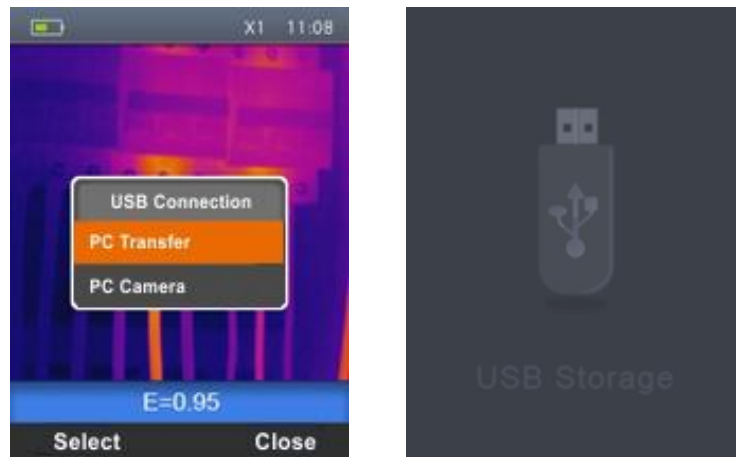
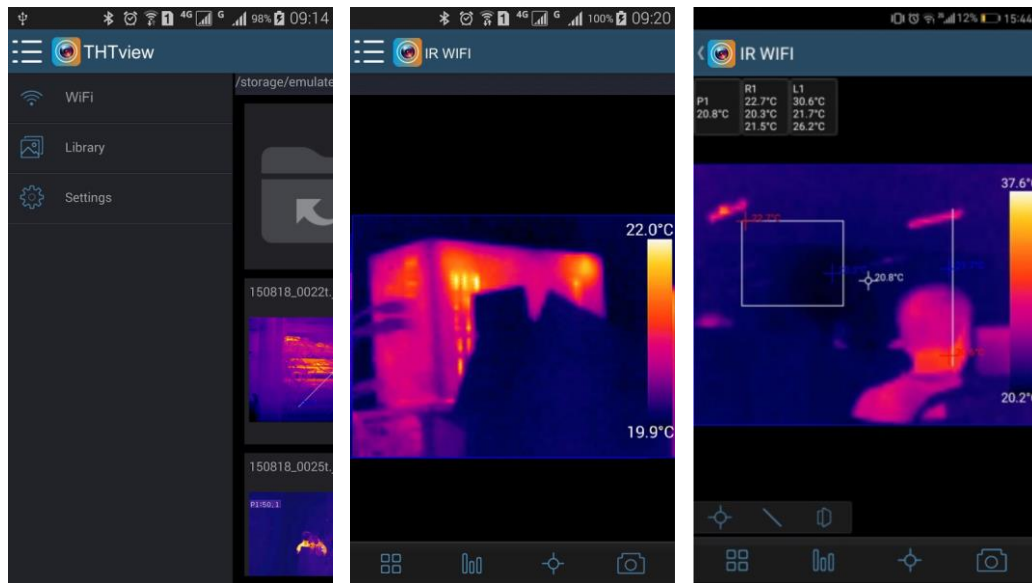

Fig. 38: Transferring images/videos onto the PC
Fig. 41: Visualization of image in real time condition
2. Connect the USB cable to the instrument (see Fig. 3 – Part 16) and to the PC. The following screen (see Fig. 38 – Left side) is shown on the display:
4. Use the keys $\oplus$ or $\ominus$ to select the option “PC Transfer” and press the “Select” key. The screen Fig. 38 – Right side is shown on the display.
5. Touch the menu icon  and select the "WiFi" option (see Fig. 38 - left side) to activate the real-time display of the image on the instrument on the mobile device display. The screen of Fig. 41 - center side is shown
Including “Spot” object on image (see Fig. 41)
Including “Line” object on image (see Fig. 41)
Including “Area” object on image (see Fig. 41)